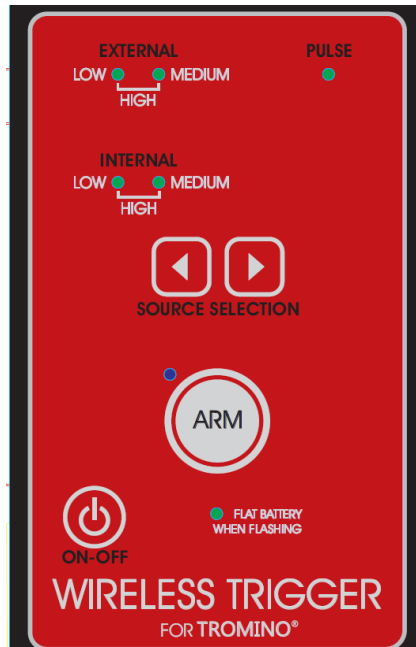

Figure 1. Control panel of the TROMINO® Wireless Trigger.
- 1) Turn the WT on, by clicking ON-OFF (Figure 1),
To surf among the options, click SOURCE (Figure 1) until the corresponding LED blinks.